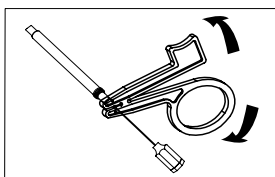

Figure 12. Attaching and rotating the fixation tool.
1. When the correct position has been achieved, attach the fixation tool to the terminal pin. Press the handles together and place the pin in the preformed groove. Release the tension on the handles to secure the terminal pin in the fixation tool (Figure 12).